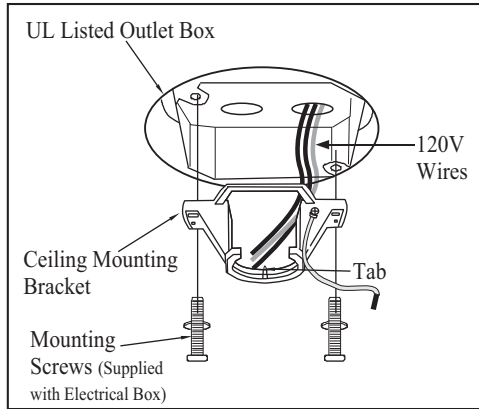

Figure 7
1. Pass the 120-volt supply wires through the center hole in the ceiling mounting bracket as shown in Figure 7.
2. Install the ceiling mounting bracket on the outlet box with the screws and washers provided with your outlet box (Figure 7).
THE TAB IN THE RING MUST REST IN THE GROOVE OF THE HANGER BALL AS FIGURE 7. FAILURE TO PROPERLY SEAT THE TAB IN THE GROOVE COULD CAUSE DAMAGE TO WIRING.